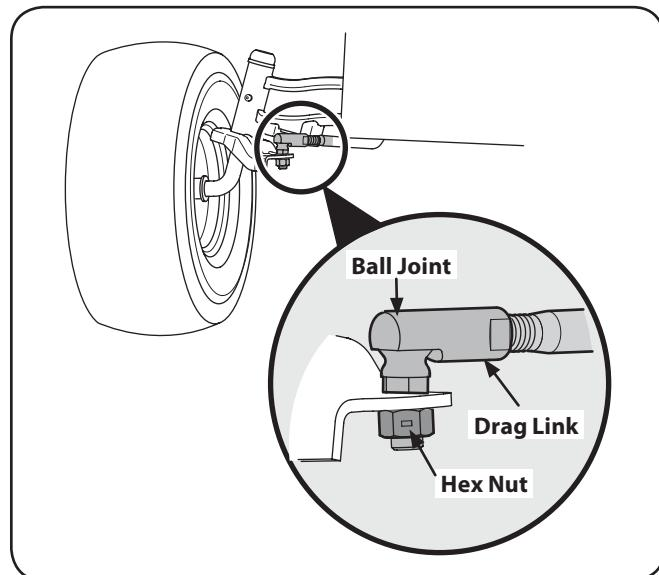

Figure 6-7
- Remove the hex nut on the top of ball joint. See Figure 6-7.